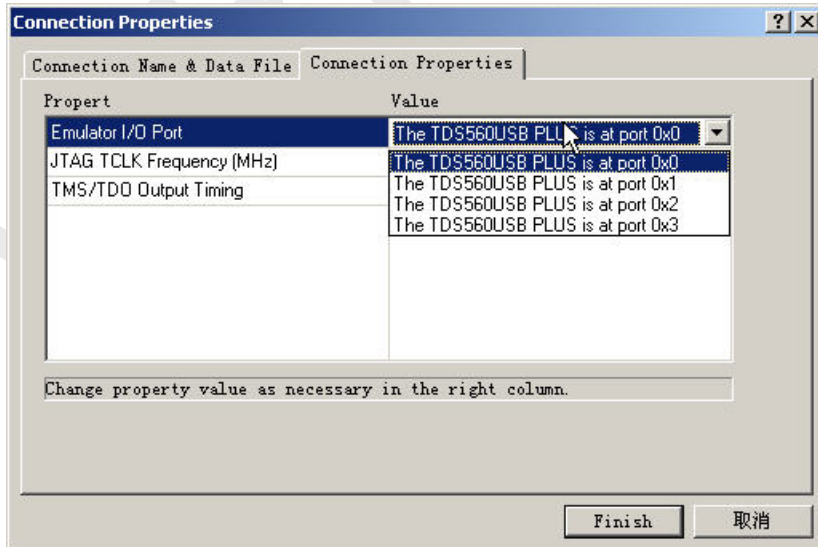

Figure C-5
- Select “Emulator I/O Port” “**The TDS560USB PLUS is at port 0x0**” to use the first TDS560USB PLUS Emulator connected to your system.(Figure C-5)